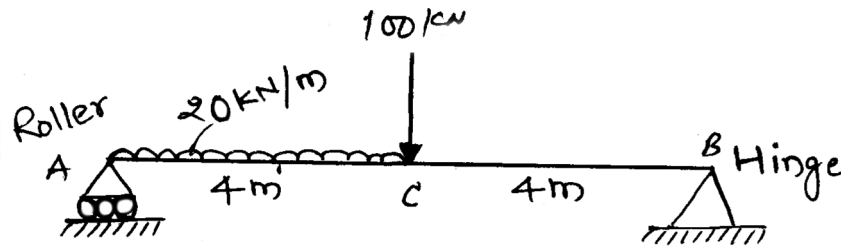

Fig. No. 7.
- a) For a beam as shown in Fig. No. 7., calculate reaction at roller and hinge support by analytical method.